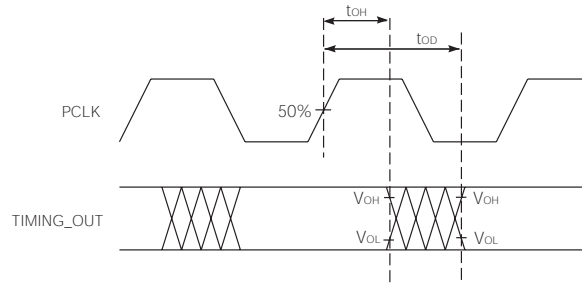

Figure 2-1: PCLK to TIMING_OUT Signal Output Timing
- With PCLK phasing delay set to nominal (zero offset), each increment of the clock phasing adjustment decreases output hold time and delay time by a nominal 700ps. The times t_{OD} and t_{OH} are defined in Figure 2-1.